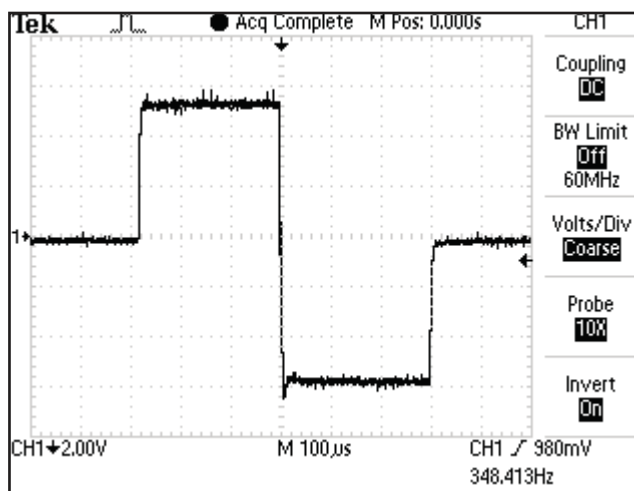

FIGURE 4.4
C. TENS- Symmetrical Biphasic- Figure 4.4 (Vectra Genisys, and Intellect Legend XT)
- Output Intensity..... 0-80 mA (CC)